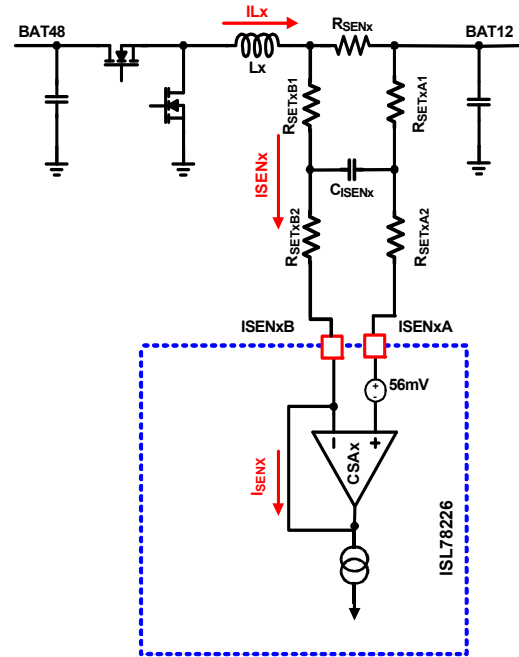

FIGURE 135. CURRENT-SENSING BLOCK DIAGRAM FOR INDIVIDUAL PHASE  $I_{SENx}$
The ISL78226 peak current control architecture senses the inductor current of each phase continuously for fast response. A sense resistor (shunt) is placed in-series with the power inductor for each phase. The ISL78226 Current-Sense Amplifiers (CSA) continuously sense the respective inductor current (as shown in Figure 135) by sensing the voltage signal across the sense resistor  $R_{SENx}$  (where "x" indicates the specific phase number and same note applied throughout this document). The sensed current for each active phase will be used for peak current mode control loop, phase current balance, individual phase cycle-by-cycle peak current limiting (OC1), individual phase overcurrent fault protection (OC2), averaged Constant Current Limit (CCL) control, Average Overcurrent Protection (AOCP), Diode Emulation (DE), and Phase Drop/Add control. The internal circuitry shown in Figure 135 represents a single phase and is repeated for each phase.
The RC network between  $R_{SENx}$  and ISENxA/ISENB pins as shown in Figure 135 is the recommended configuration. The current gain setting resistor,  $R_{SETxB}$ , is  $R_{SETxB1}$  plus  $R_{SETxB2}$  in Figure 135 and that sum should be fixed at 1k $\Omega$ .
It is also recommended to have  $R_{SETxA} = R_{SETxB}$  and all four resistors as equal in value as standard values allow. Insert a capacitor,  $C_{ISENx}$ , between them as shown in Figure 135. This will form a symmetric noise filter for the small current-sense signals. The differential filtering time constant equals  $(R_{SETxA1} + R_{BIASxB1}) * C_{ISENx}$ . This time constant is typically selected in the range of tens of ns depending on the actual noise levels.